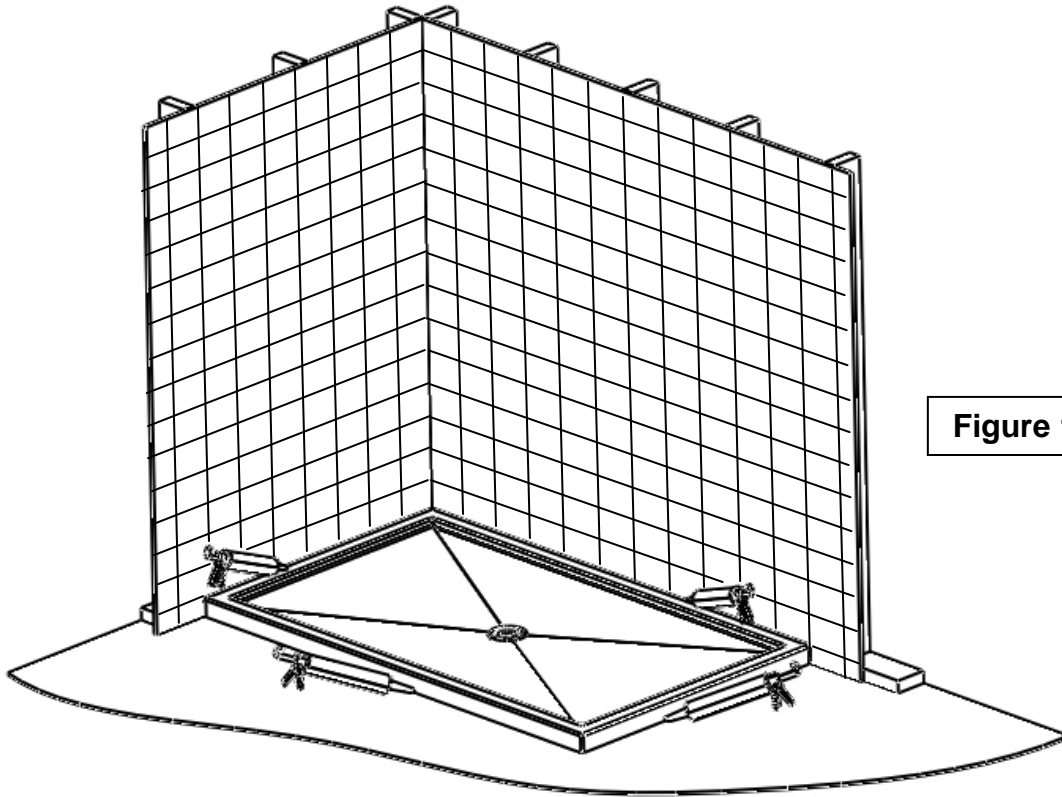

Figure 13
7. The last step consists in completing the wallcovering and seal using silicone in the places where water can infiltrate when using the shower base. (see figure 13)